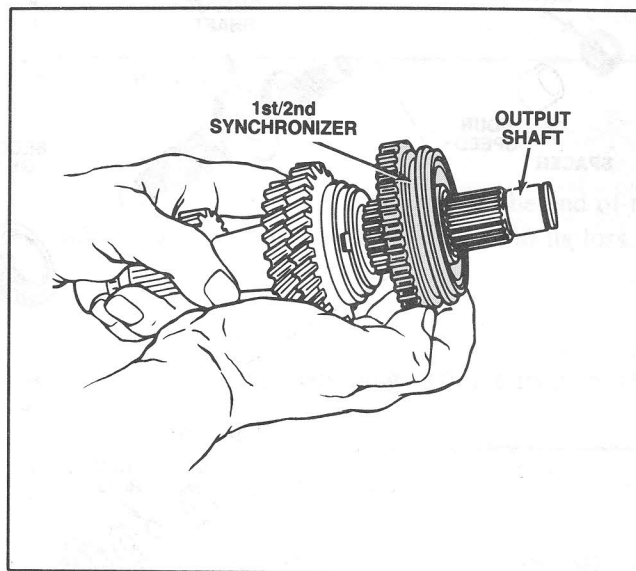

Figure 70 Snap Ring Removal
10. Remove the first/second gear synchronizer. (Figure 70).